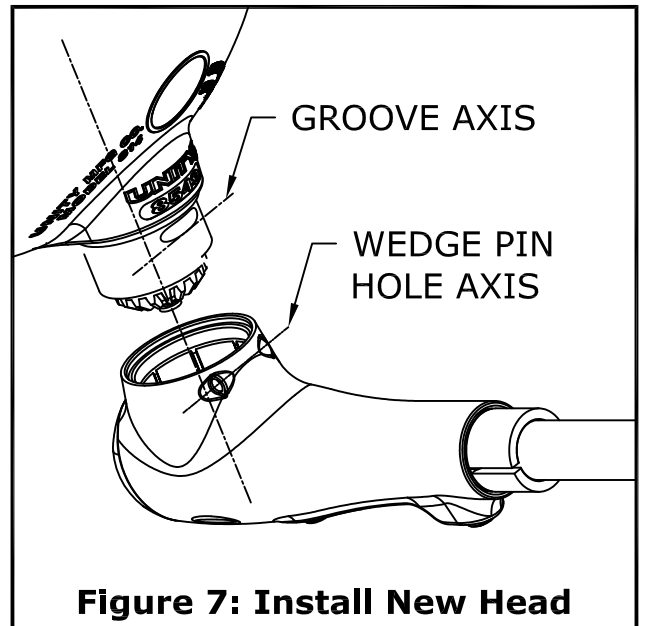

Figure 7: Install New Head
2) Install New Head (Figure 7)